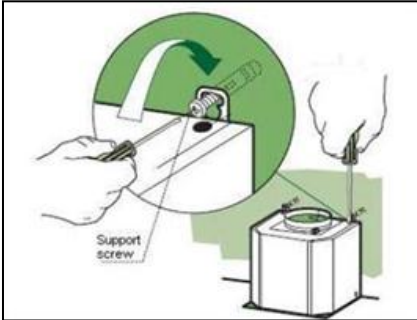

Fig. 9
- Fix the hood body to wall using 2 (two) ST5 x 25 screws provided. Tighten screws firmly. Note: Adjust the hood body alignment if necessary (Fig. 9).
Aligning the hood body (if necessary) (Fig. 9)